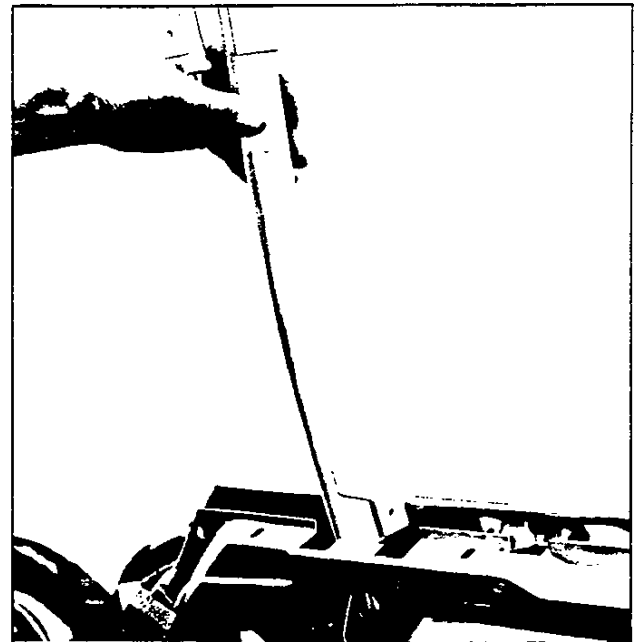

Fig. 31—Removing Front Glass Channel
7. Carefully lift channel through upper slot as shown in Figure 31 making certain to clear opening.